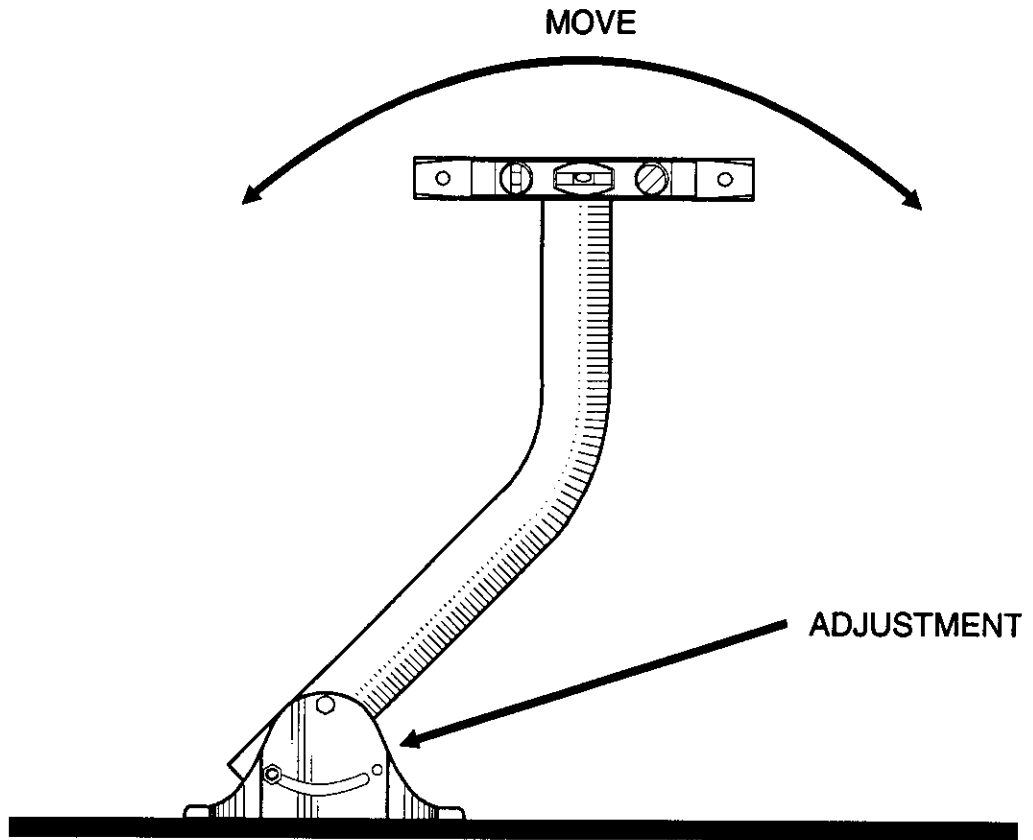

Figure 28, Horizontal Surface Mast Leveling with Foot Adjustment
3. With the adjustment on the foot, level the mast (see figure 28).